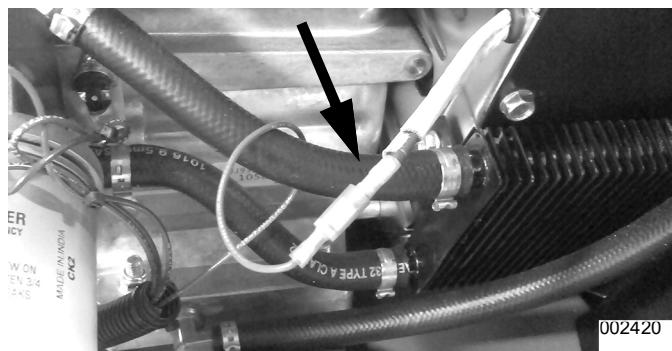
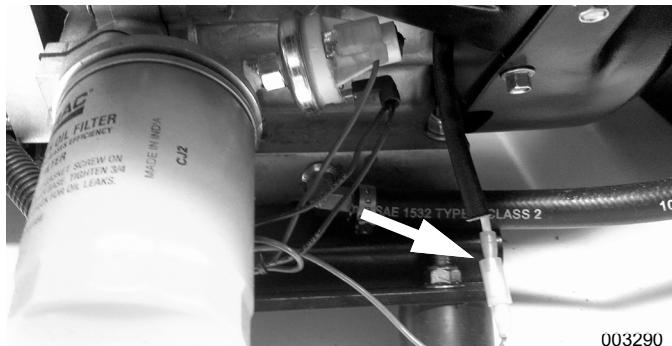

Figure 3-66. Wire 18 Connection – V-Twin Units
Figure 3-67. Wire 18 Connection – Single Cylinder Units
- See Figure 3-66 and Figure 3-67. Disconnect Wire 18.
1. See **Figure 3-66** and **Figure 3-67**. Disconnect Wire 18 at the bullet connector.
- See **Figure 3-66** and **Figure 3-67**. Disconnect Wire 18 at the bullet connector.